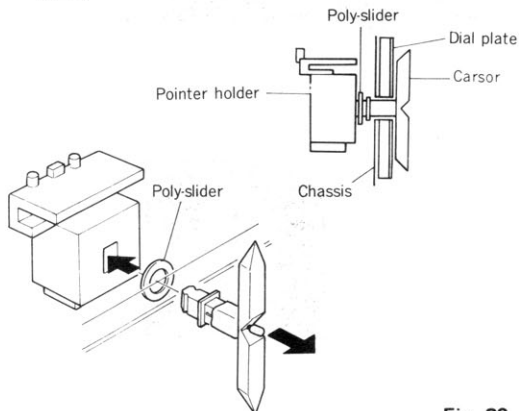

Fig. 20
- 3) Hold the pointer holder and pull the cursor. (The poly-slider washer in the position in the figure will also be removed, and so take care when replacing.) (Refer to Fig. 20)